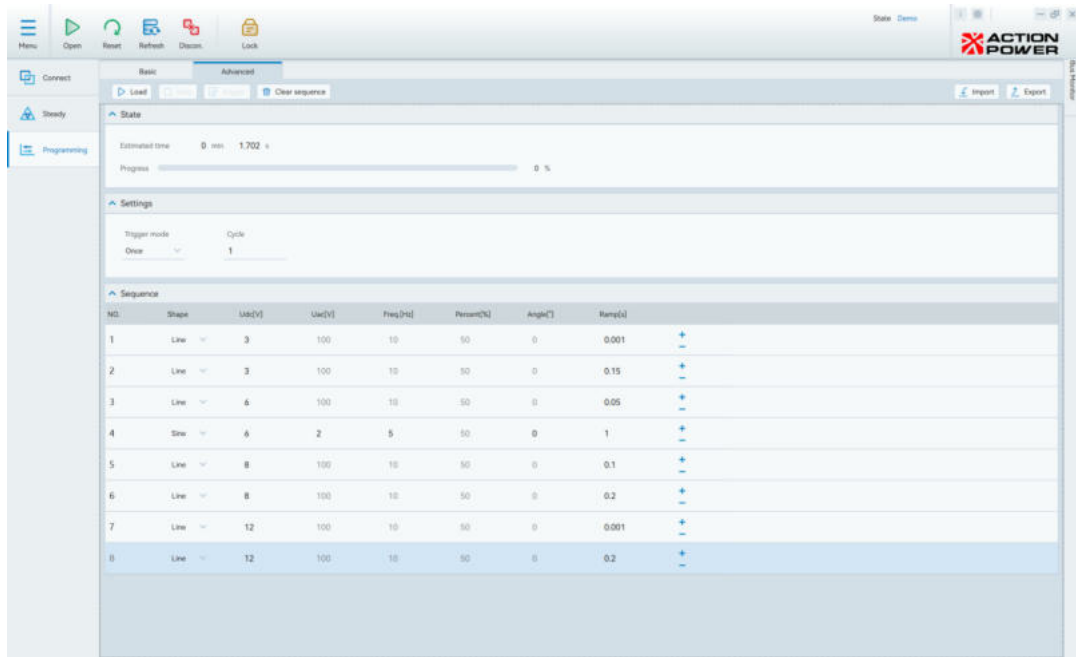
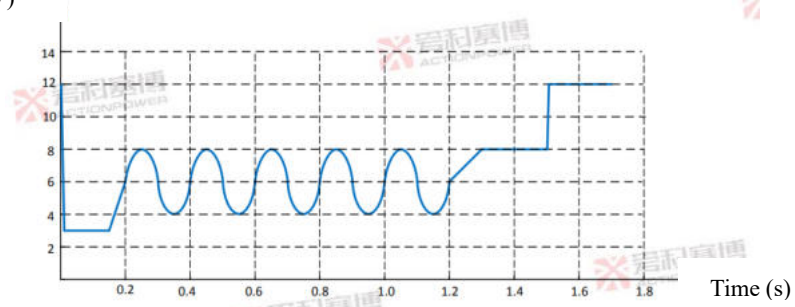

Figure 5.2.7 Example diagram of advanced programming sequence configuration
Figure 5.2.8 Example diagram of advanced programming waveform
- Example: Sequence configuration as shown in Figure 5.2.7, corresponding waveform diagram as shown in Figure 5.2.8